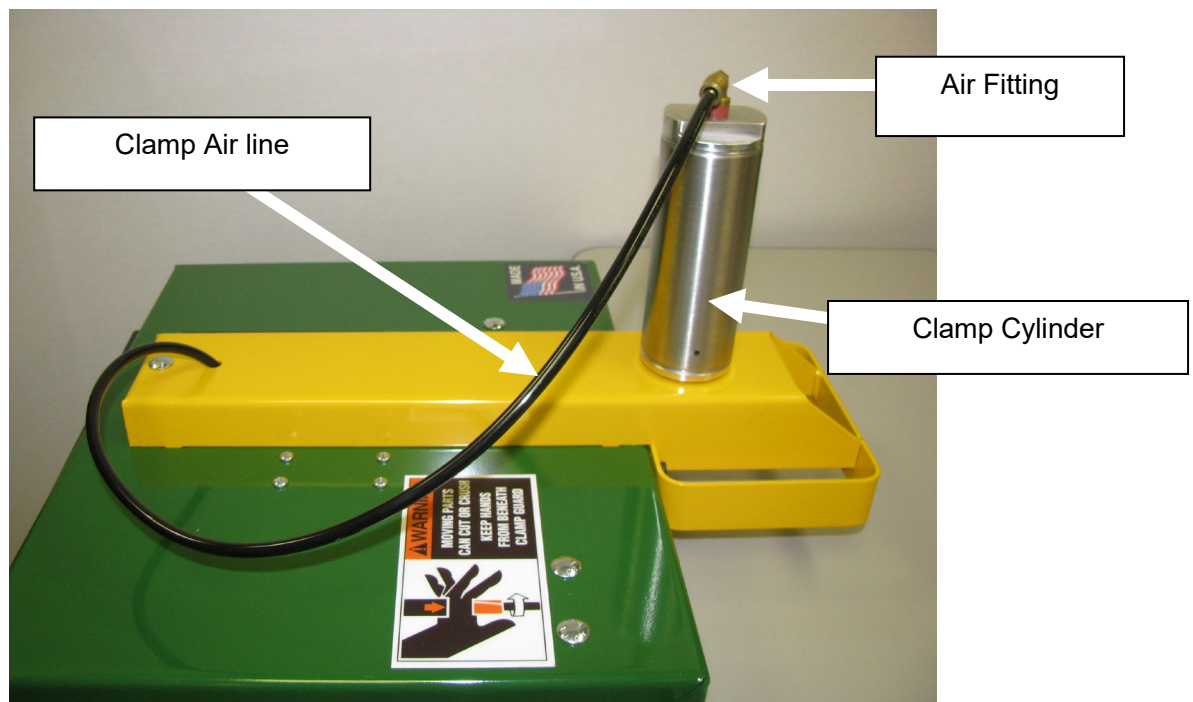

Fig 4
3. Connect an external air supply directly to the "push in" air fitting. **See Fig 4.**